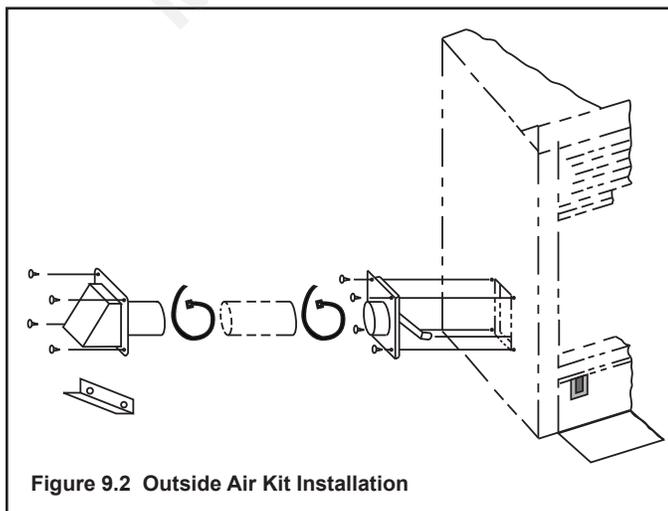

Figure 9.2 Outside Air Kit Installation
- Attach damper assembly to appliance using screws provided (see Figure 9.2).